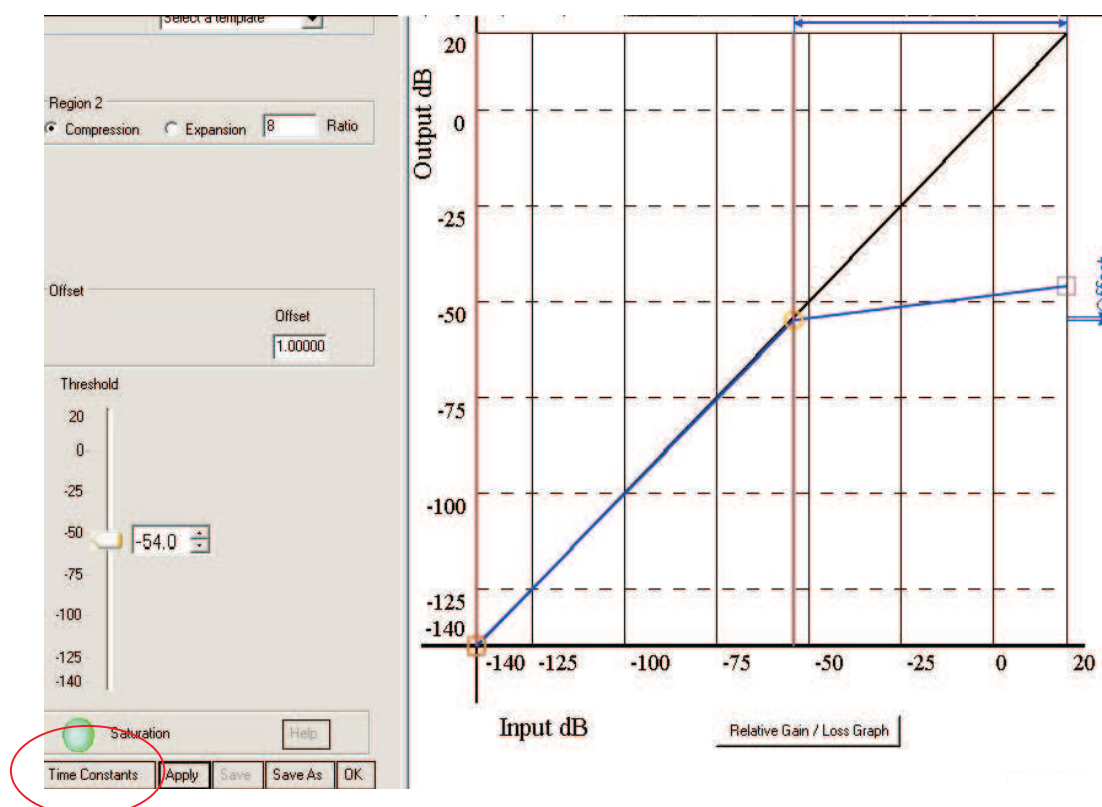

Figure 18. Time Constants Button
**Time constants:** Select the time constants to adjust the energy, attack, and decay filters (Figure 18).